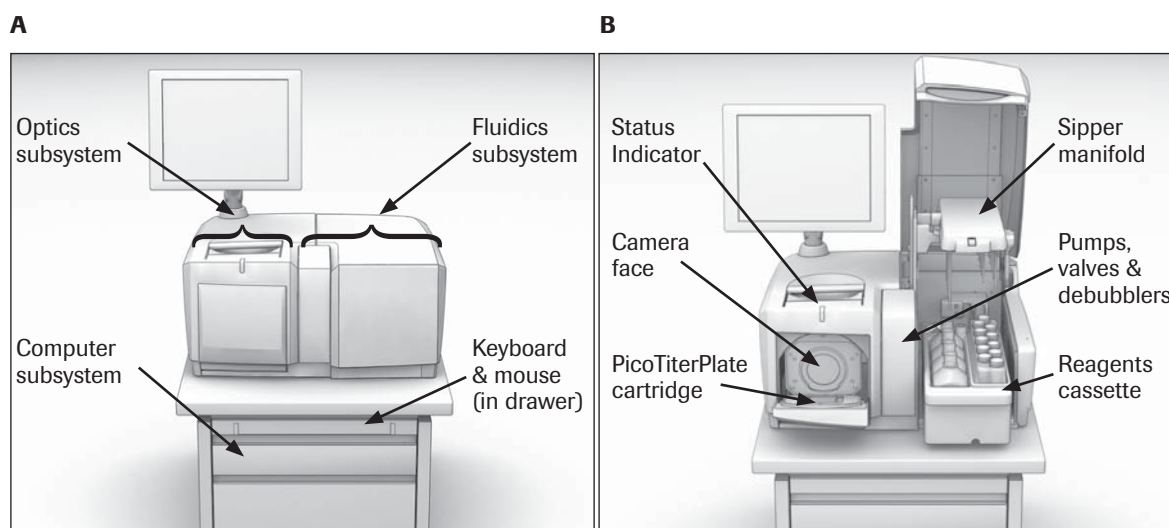

Figure 1–2: Main components of the Genome Sequencer FLX Instrument
The main components of the Genome Sequencer FLX Instrument are an optics subsystem and a fluidics subsystem which occupy the left- and right-hand sides of the instrument, respectively. Both systems are controlled by a computer subsystem, which is located in the cart (Figure 1–2).
- ▶ The **fluidics subsystem** moves the sequencing reagents across the wells of a PicoTiter-Plate device (PTP device), and then moves spent reagents from the PTP device to the waste receptacle. The fluidics subsystem includes a Reagents cassette, which holds the reagent containers and doubles as a waste container; a reagent sipper tube assembly and reagent tubing; a 16-position valve manifold; 2 main peristaltic pumps; 2 debubblers with secondary “purging” pumps; a heated PTP cartridge holder (in the camera door); and effluent tubing leading to the waste container (Figure 1–2B).